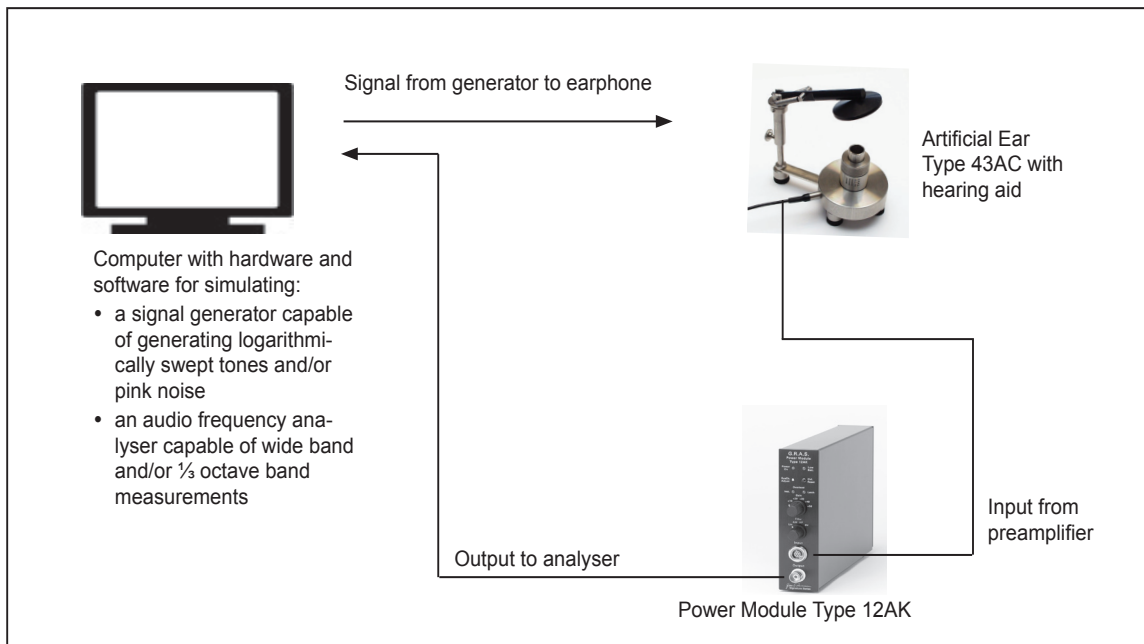

Fig. 3.2 Block diagram of a complete set-up for making tests
Items 3 and 4 could be combined in the same unit, e.g. a computer fitted with suitable hardware and software for A/D and D/A conversions in order to simulate both a signal generator and an analyser. Fig. 3.2 shows a block diagram of a possible set-up for making tests.
- 1) Setting up the test jig, e.g. as shown in Fig. 3.2